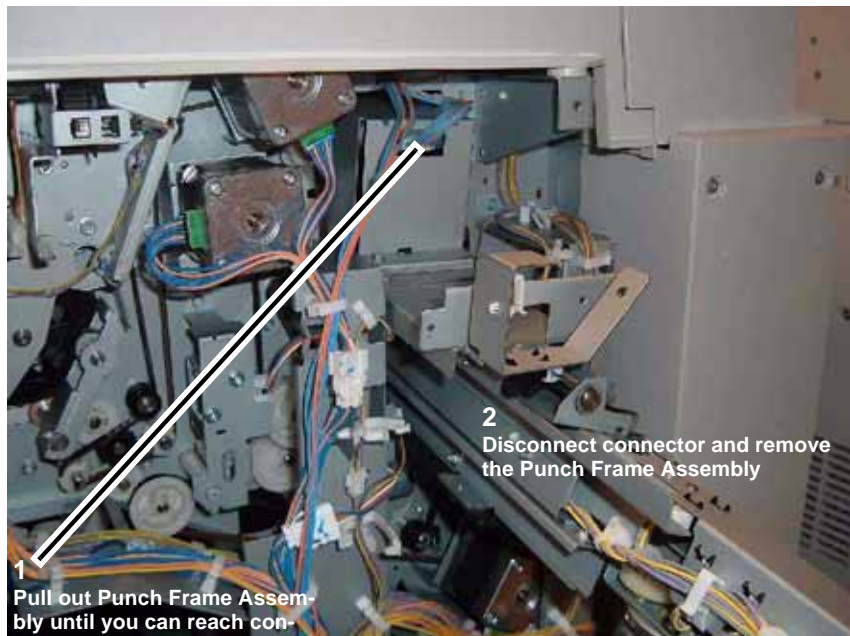

Figure 4 Removing the Punch Frame Assembly
6. Remove the Punch Frame Assembly (Figure 4).